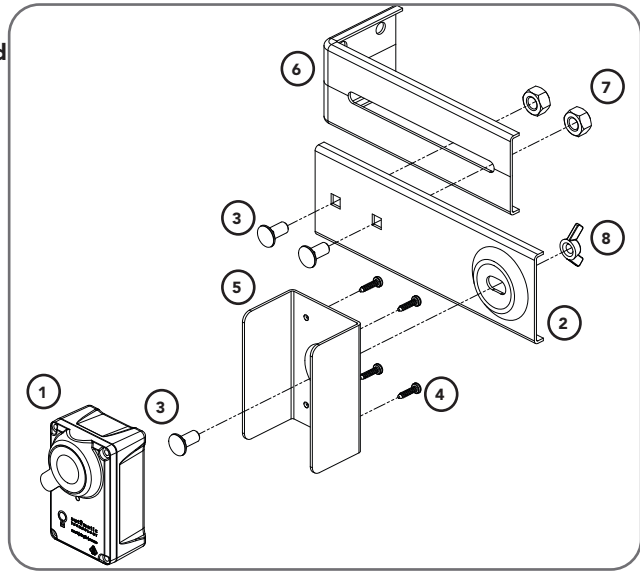
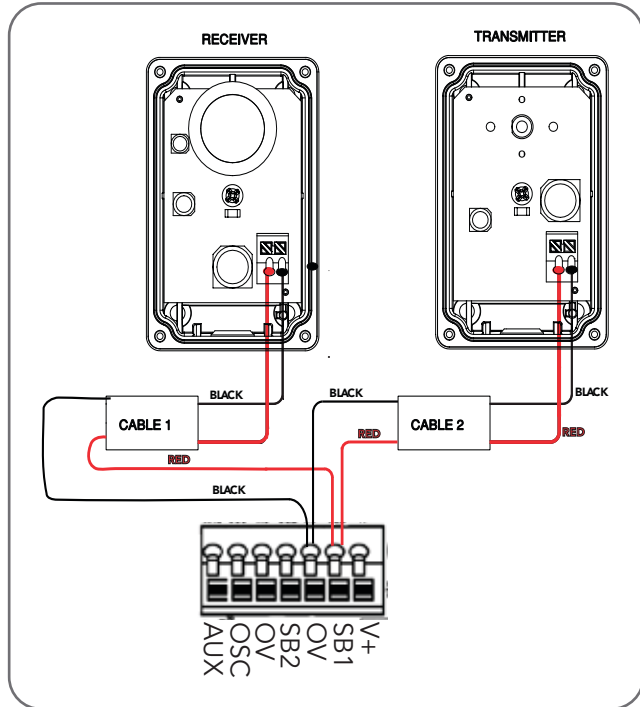

Fig.6.3.1
Fig.6.3.2
- Place the round screw (3) through the Bracket (5). Attach the Safety Beam Transmitter (TX) using four (4) M3 x 5 Taptite screws (4) (Fig. 6.3.1).
- Connect the mounting bracket (2) to the Bracket (5) using the wing nut (8) onto the round screw (3). Secure the adjustment bracket (6) to the mounting bracket (2) using two (2) screws (3) and nuts (7).
- Repeat steps (a) and (b) to assemble the Safety Beam Receiver (RX).
- Wire the PE Beams as per Wiring Diagram (Fig. 6.3.2).
WARNING: Connect the Safety Beam as per diagram in Fig 6.3.2. Tampering with the Safety Beam could result in serious personal injury and/or property damage and will void the warranty.